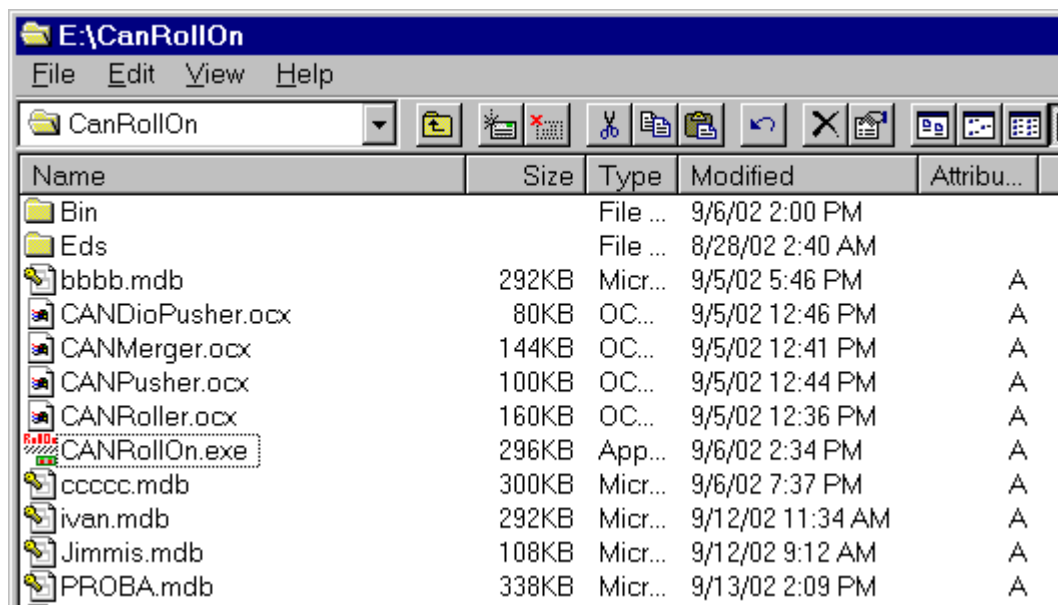

Fig. 7.3
- Click on **CANRollOn** item to open the CANopen RollOn Configuration Tool file-list as for example is shown in Fig. 7.3 (You may recollect also Fig. 3.5).